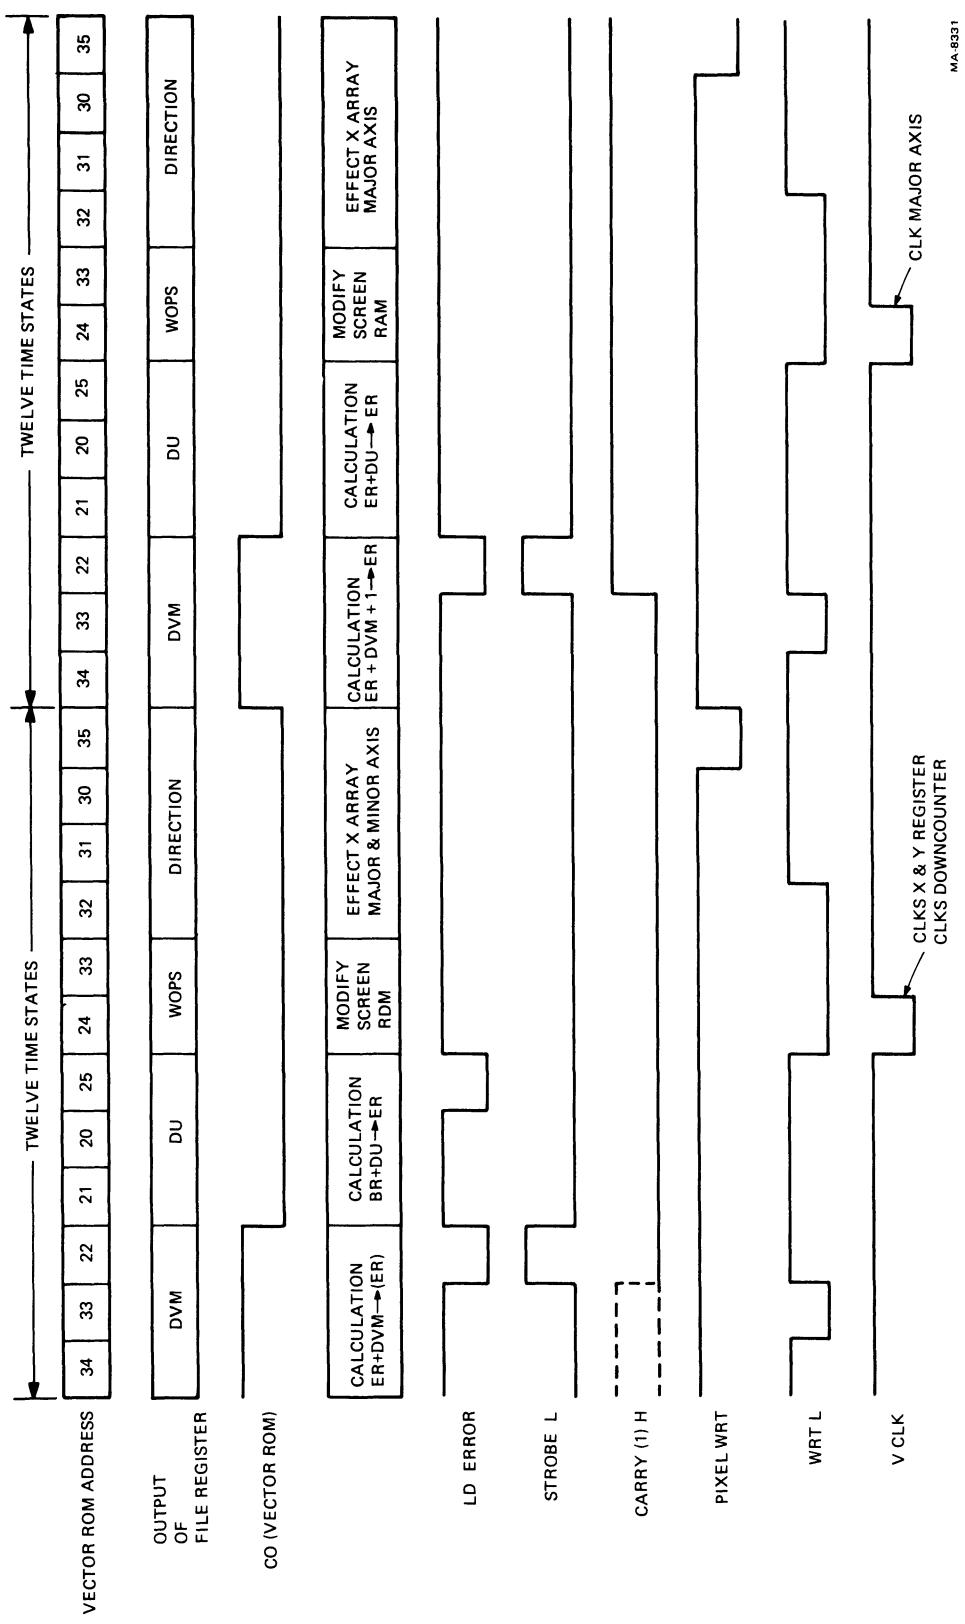

Figure 5-23 Arbitrary Vector Timing
5.2.2.7 Arbitrary Vectors -- The vector generator produces basic and arbitrary vectors in the VK100 system. The basic vectors are shown in Figure 5-23. There are eight basic vector directions 45° apart. Vectors drawn in between the eight basic vectors are called arbitrary vectors.